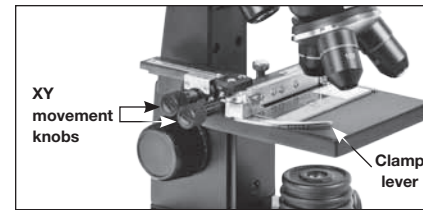

Figure 4. X-Y Mechanical stage.
The Orion MXLCD features a mechanical stage that is used to accurately position specimens on screen **(Figure 4)**.
- Place one of the included prepared slides onto XY stage by using the clamp lever to hold slide firmly in place **(Figure 4)**.